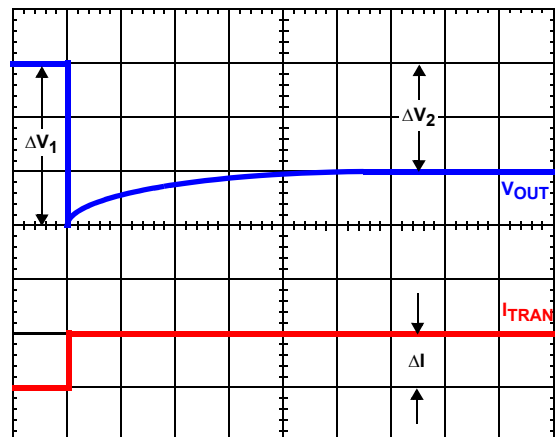

FIGURE 22. TIME CONSTANT MISMATCH BEHAVIOR
Due to errors in the inductance and/or DCR, it may be necessary to adjust the value of  $R_1$  and  $R_2$  to match the time constants correctly. The effects of time constant mismatch can be seen in the form of droop overshoot or undershoot during the initial load transient spike, as shown in Figure 22. Follow the steps below to ensure the R-C and inductor L/DCR time constants are matched accurately.
3. Record  $\Delta V_1$  and  $\Delta V_2$  as shown in Figure 22.